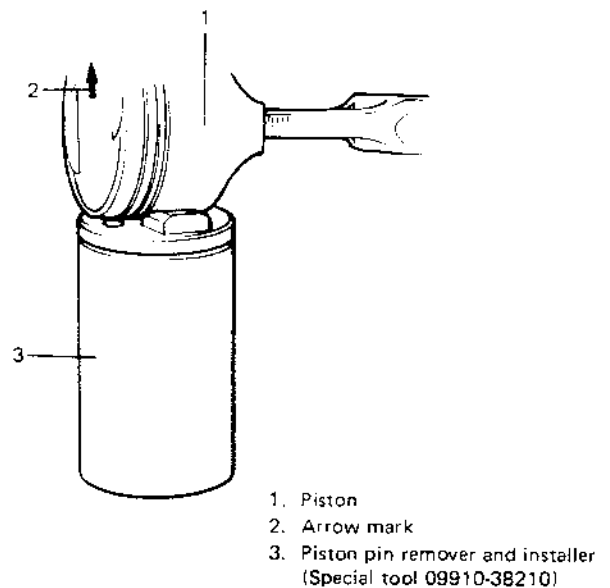
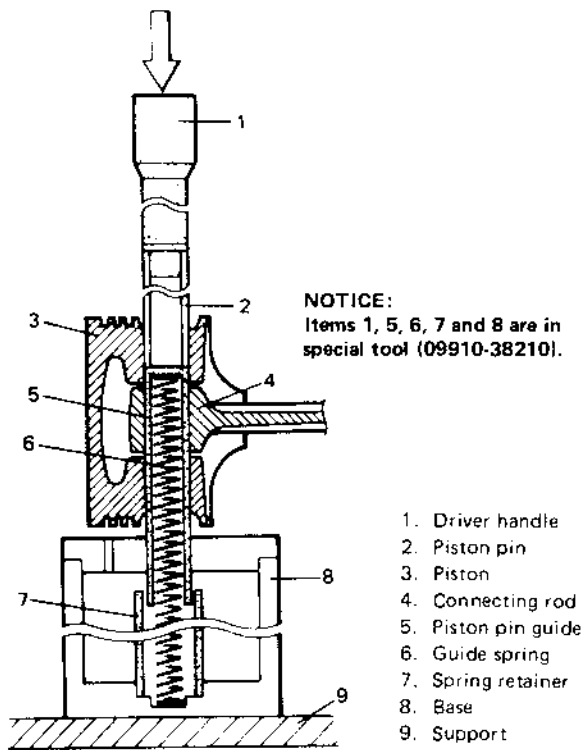

Fig. 3-6-13 Fitting piston to special tool
Fig. 3-6-14 Installing piston pin
② Place piston on piston pin remover and installer (special tool) as indicated in Fig. 3-6-13, and press piston pin into piston and connecting rod (Fig. 3-6-14).